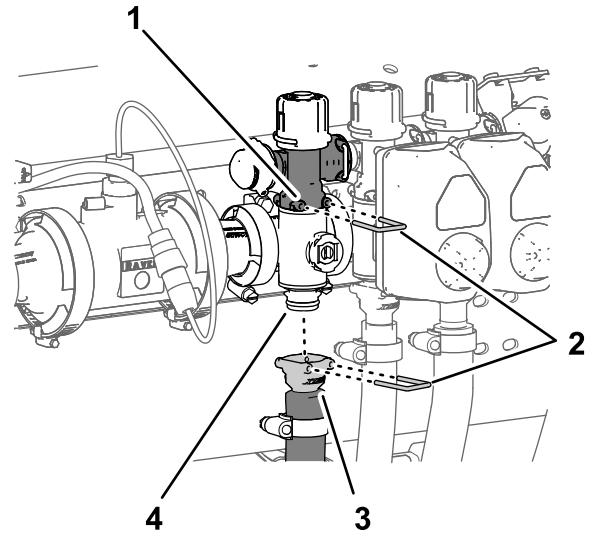

Figure 112
- Remove the quick-connect pin that secures the quick-connect coupler for the section-bypass valve to the section-manifold valve (Figure 112).
- Remove the quick connect pin that secures the quick-connect coupler for the section supply hose to the manifold for the quick-connect fitting of the section-manifold valve (Figure 112).